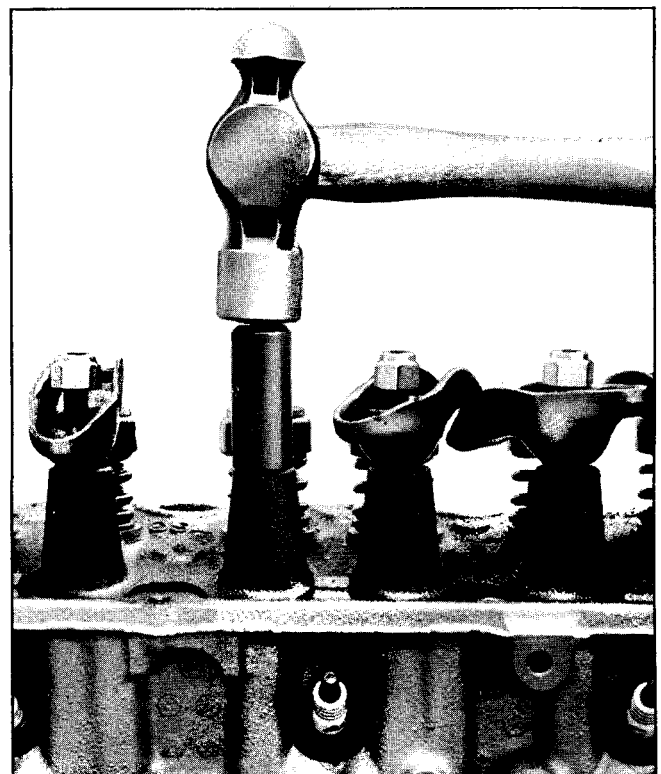

Fig. 6-34 Installing New Rocker Arm Stud
2. Install new stud, using tool J-6880. Tool should bottom on head (Fig. 6-34).